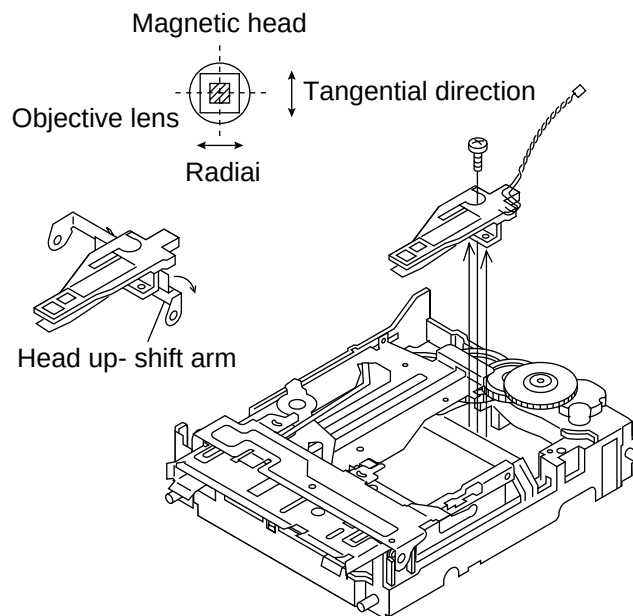

Figure 25-2
4. Check that the magnetic head moves up and down smoothly. (shown in Figure 25-2)